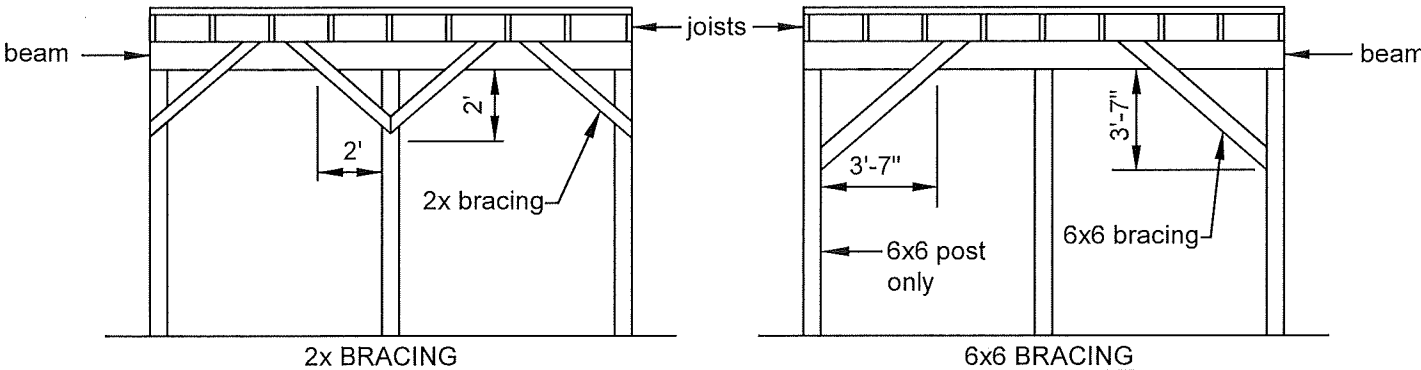

**FIGURE 22: TENSION TIE LOCATIONS
- Tension-ties (four total) shall be installed at the end joist and first inside joist at each end of the deck as shown in FIGURE 22. A set of tension-ties shall be installed for each structurally independent section of a multi-level deck.